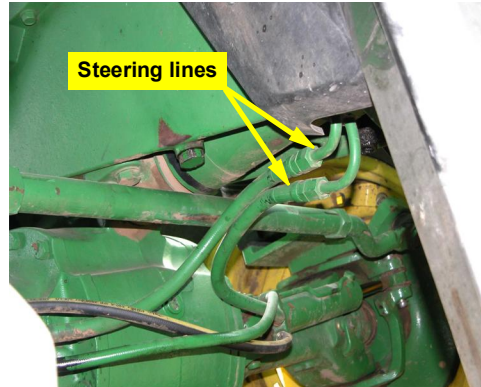

Figure 5a: Steering lines - steel to rubber junction
- a. Locate the steering lines under the tractor and behind the front axle (Figure 5a).